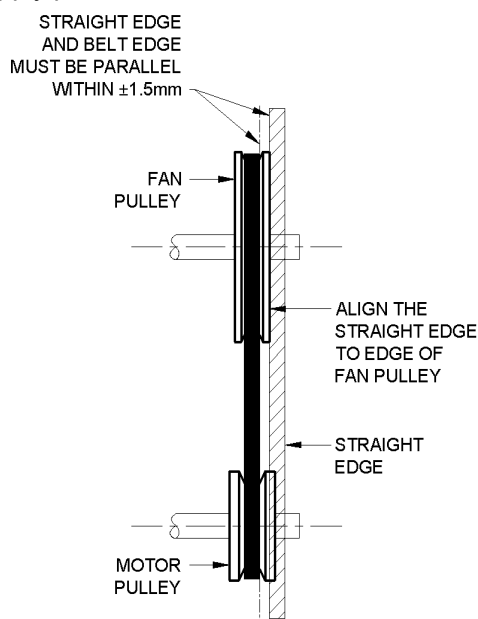

Fig. 12 Evaporator – Fan Pulley Alignment and Adjustment
3. Loosen movable-pulley flange setscrew (see Fig. 12).